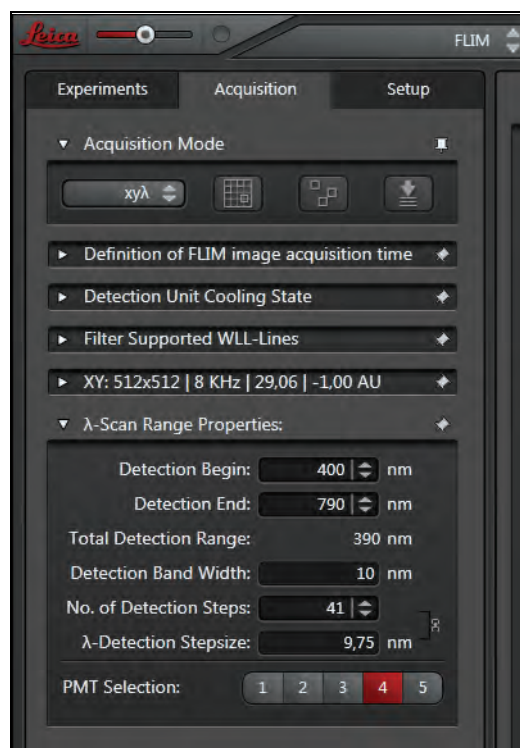

Figure 142: Defining $xy\lambda$ FLIM stacks
6. Define the stack in the λ stack dialog as follows (**Figure 142**):
6. Via the λ stack dialog, define the stack as described in **Chapter 16.3.7 (Figure 142)**.